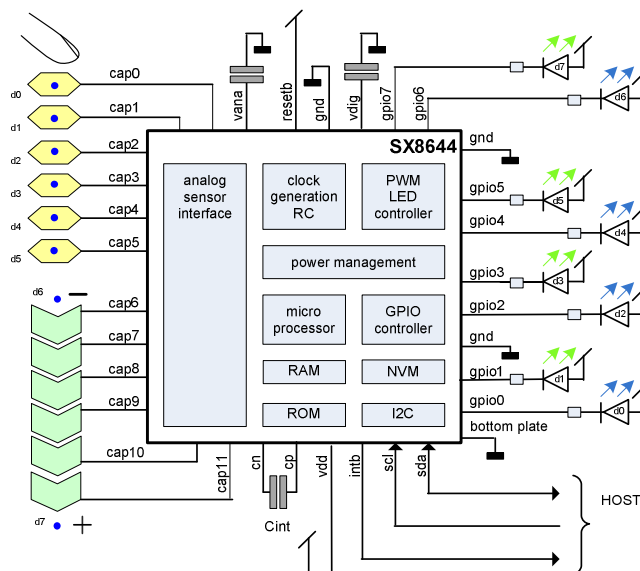

Figure 1: SX8644 Typical Application
c) Integration capacitor  $C_{int}$  (see Figure 1) must be placed as close as possible to the chip and as far as possible from noisy signals